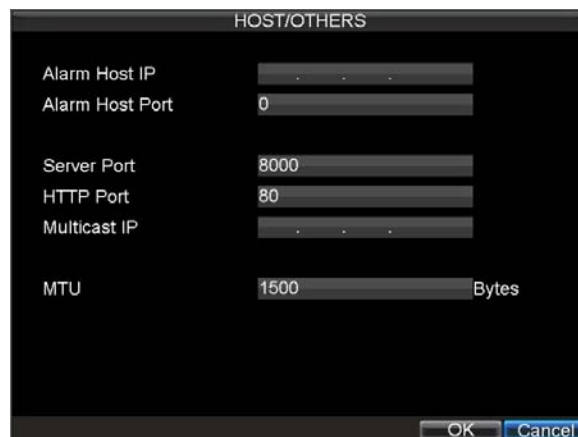

Figure11. Host/Others Menu
4. Enter new **Server Port** and **HTTP Port**, as shown in Figure 11.